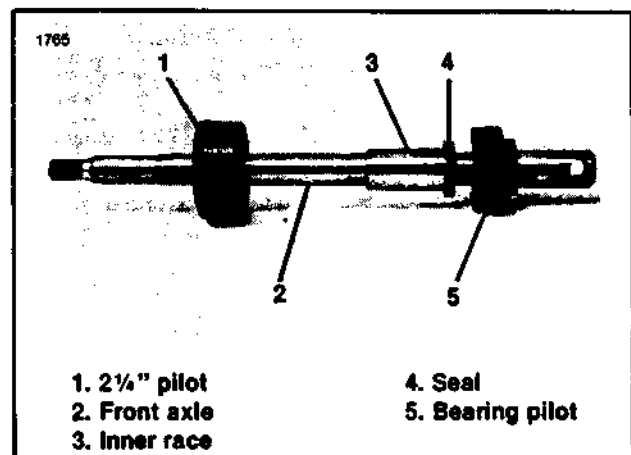

Figure 2. Front & Rear Wheel Seal Installation
7. See Figure 2. Place the bearing pilot on the axle with the axle head recessed inside the bearing pilot. Place the seal over the axle with the numbered side facing the flat side of the bearing pilot. Place the inner race on the axle and inside the seal. Insert the axle through the valve stem side of the wheel and through the 2 1/4" dia. pilot.